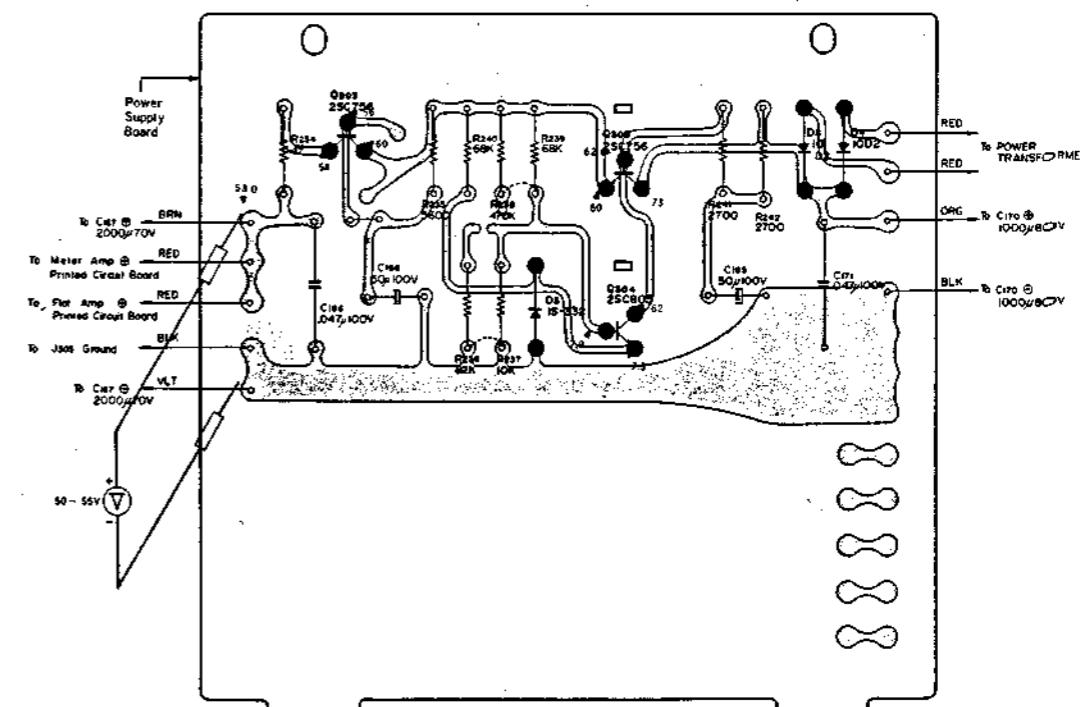

Fig. 3-3. B+ Voltage Adjustment Test Set-up
- Step 1: Connect the DC voltmeter between B- and ground. See Fig. 3-3.